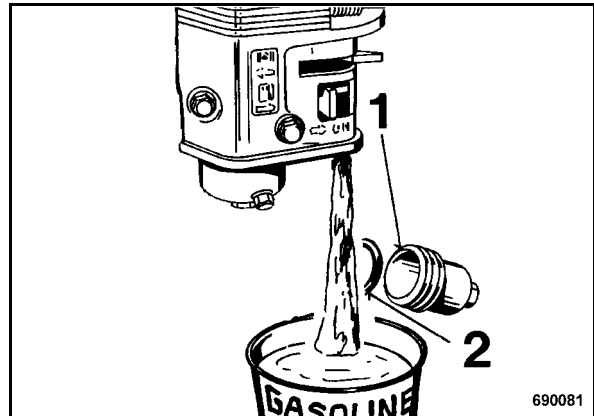

Fig. 52
- Unscrew the fuel sludge filter 1 (Fig. 52) and drain off all gasoline.
- Check seal ring (2) for cracks, replace the seal if damaged.
- Screw the fuel sludge filter with sealing ring (2) in tightly.